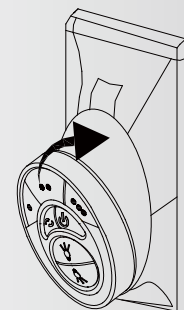

Fig. 26
Step 1. To place the transmitter in the wall plate, put the bottom end in first and then press the top into the wall plate. The transmitter is now held in the wall plate and will function from here. (Fig. 26)